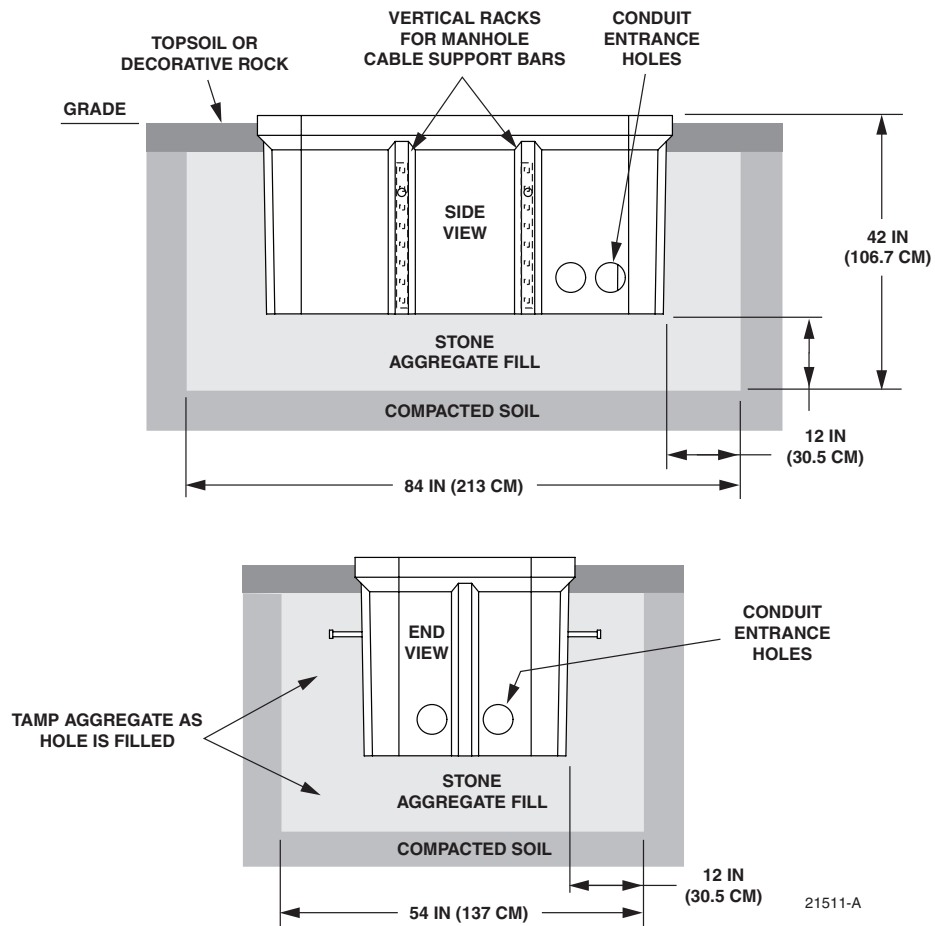

Figure 4. Excavation Recommendations for FMS-ACE100-KIT-A
The excavation must be large enough to provide a fill base that will maintain stability for the FMS and the cabinet mounted on it. There must be room for 12 inches (30.5 cm) of fill below and on each side of the FMS. The excavation dimensions for the FMS are shown in Figure 4. Excavate a rectangular hole for the FMS.
Select the conduit entrance holes (see Figure 4) for the OSP feeder and distribution cables. If necessary, additional conduit entrance holes may be cut using a power drill and hole saw. Place and route the conduit into the entrance hole(s). If preferred, the FMS may be installed without conduit. OSP cables may be routed into the FMS at any point that is convenient. Cut the cable entrance hole to match the size of the cable.
2. Complete the back-fill with crushed rock or topsoil depending on the landscaping requirements. The top surface of the mounting sleeve may be located from 0 to 4 inches (10.2 cm) above the surrounding grade (see Figure 4).